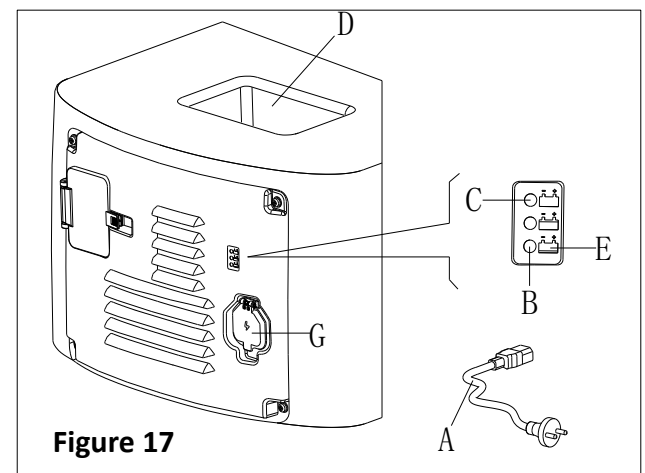

Figure 17
6. Connect the battery charger cable (A, Figure 17) to the electric mains (G), and then all machine functions except charging are cut off automatically. The normally on red LED (B) states that the machine is in process of charging.
7. The batteries are fully charged when the green LED (C) becomes on.
8. Disconnect battery charge cable from electric mains after charging is completed, and then store the battery charger cable in the storage box (D).
For further information about on-board charger (E, Figure 17), please refer to relevant manual from service center.